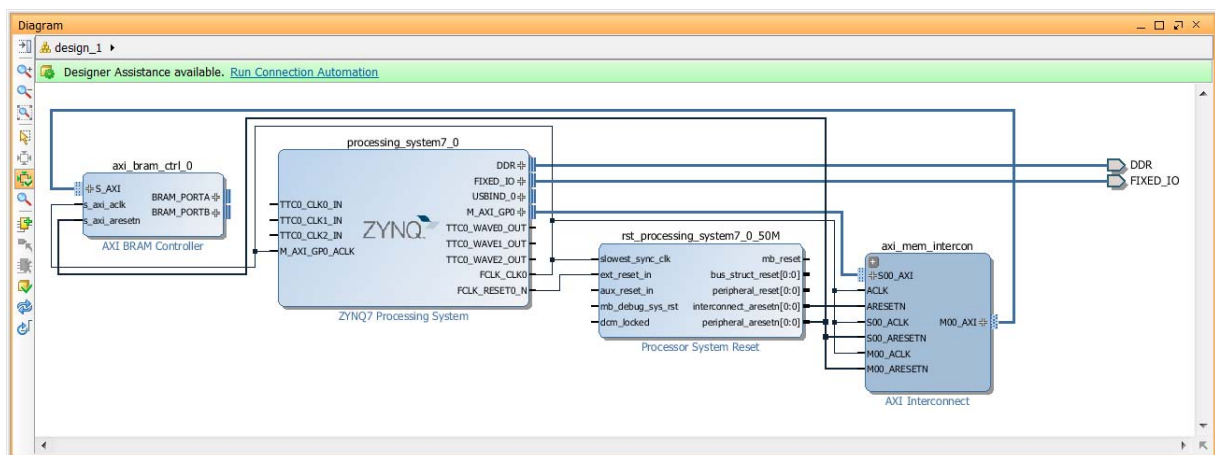

Figure 2-31: Block Design after Connection Automation
- Appropriately connects the Proc Sys Reset IP as shown in Figure 2-31